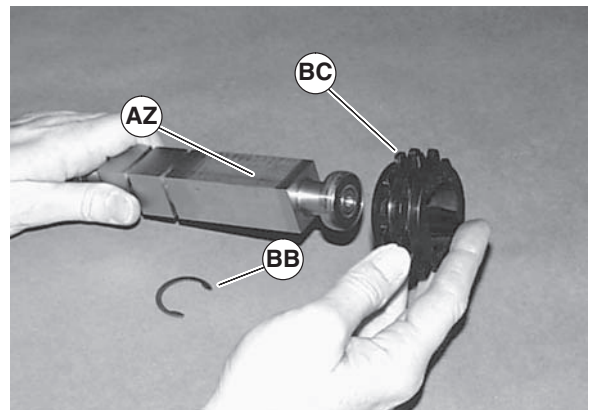

Figure 38
2. Install drive sprocket (Figure 38, item BC) with snap rings (BB) to pulley (AZ).